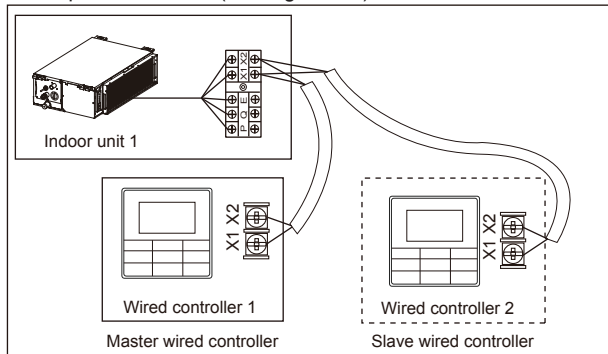

Figure 7.7
- Use 1 wired controller to control 1 indoor unit or 2 wired controllers (one master and one slave controller) to control 1 indoor unit (see Figure 7.7);